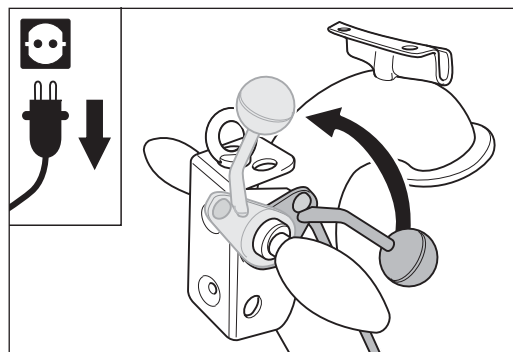

Fig. 5 Lift the sanding drum off the floor by turning the lowering lever at the handle upwards.
- 5 Lift the sanding drum off the floor by turning the lowering lever at the handle upwards (Fig. 5).